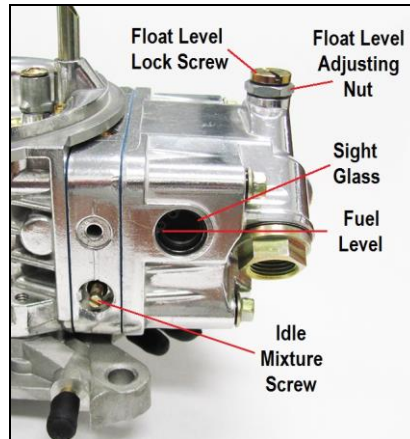

Figure 10
2. Observe the sight glass for the fuel level. If none is seen, the level is too low. A properly set float level will have the fuel level located will be in the center of the glass, as shown by the line in **Figure 10**.